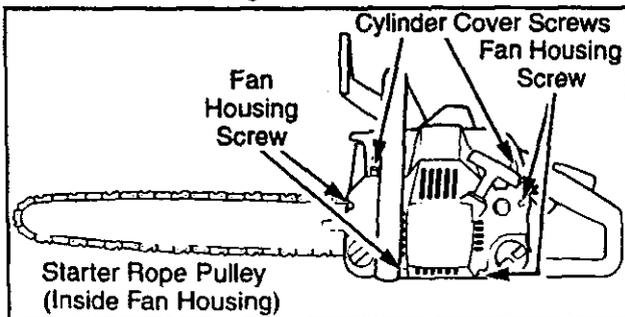

Figure 45
### STARTER ROPE REPLACEMENT (Fig. 45, 46, 47, 48 & 49)
- Reinstall the 4 fan housing screws and tighten the 2 cylinder cover screws. Fig 45.